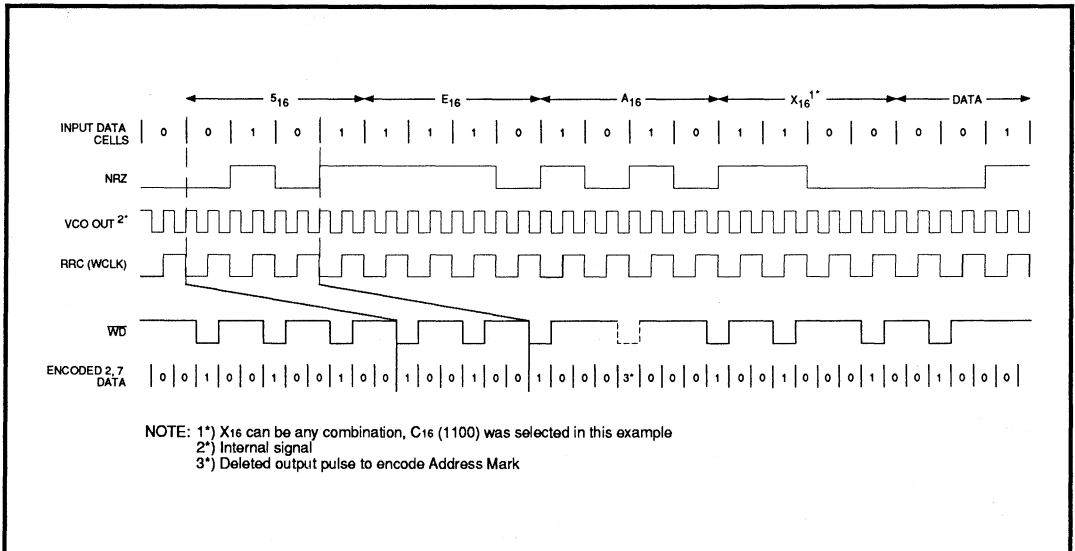

FIGURE 8: Write Address Mark Generation
In the Soft Sector Mode, when WRITE GATE (WG), transitions high and the NRZ input is held low, the SSI 32D5351 automatically generates the 3T (100) Preamble Field at the WRITE DATA (\overline{WD}), output. The 3T Preamble Field will continue to be generated until the first low to high transition on the NRZ line. As shown in Figure 8, the first low to high transition occurs with the second bit '1' of the 5₁₆ (0101) in the 5EAX₁₆ Address Mark generation pattern. To generate the Address Mark, the SSI 32D5351 automatically changes the '1' in the eleventh position (see note 3) of the 2, 7 RLL encoded sequence, to a '0'. This generates a pattern of seven zero's followed by two zero's. This unique pattern satisfies the 2, 7 RLL constraints, but will never occur during a normal encoding sequence. The x₁₆ of the 5EAX₁₆ Address Mark generation pattern can be selected, a 'C₁₆' (1100) was utilized in this example.